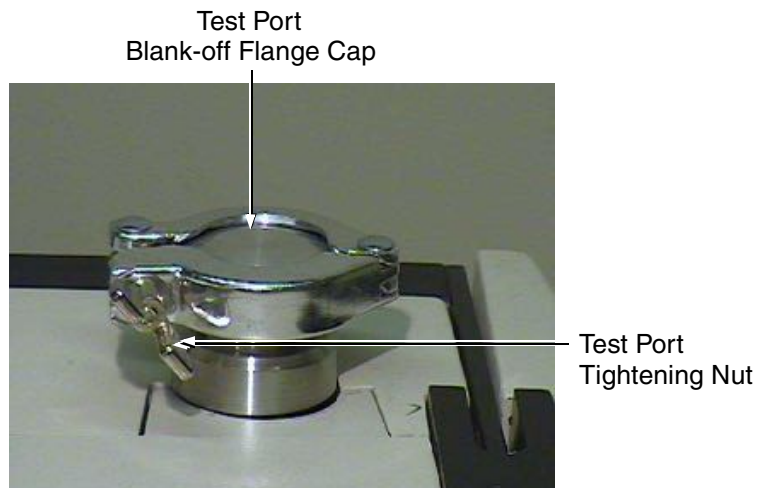

Figure 2-6 Test Port with Blank-Off Flange Cap
The unit under test or the associated vacuum system to be monitored is connected to the test port at the top of the leak detector (Figure 2-6). Information regarding the various leak detection methods is given in Appendix A "Introduction to Leak Detection".
1. Turn the test port wing nut counterclockwise to loosen it (Figure 2-6) and remove the quick clamp (Varian P/N KQ25AWP) from the test port.